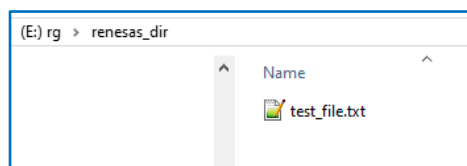

Figure 28 Text file creation
- Creating a file inside the directory is illustrated in *Figure 28 Text file creation*.